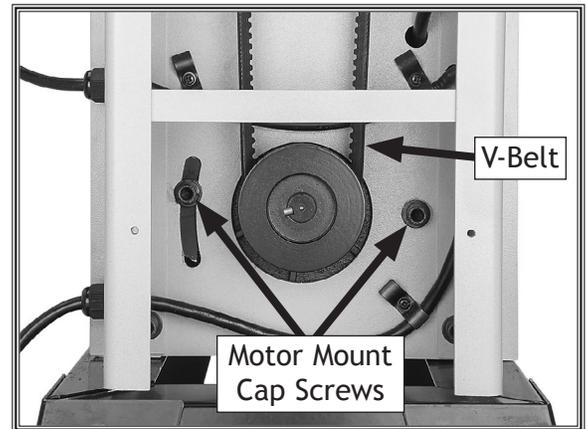

Figure 31. V-belt tension adjustments.
3. Check tension of V-belt, then adjust tension by loosening motor mount cap screws (see **Figure 31**).